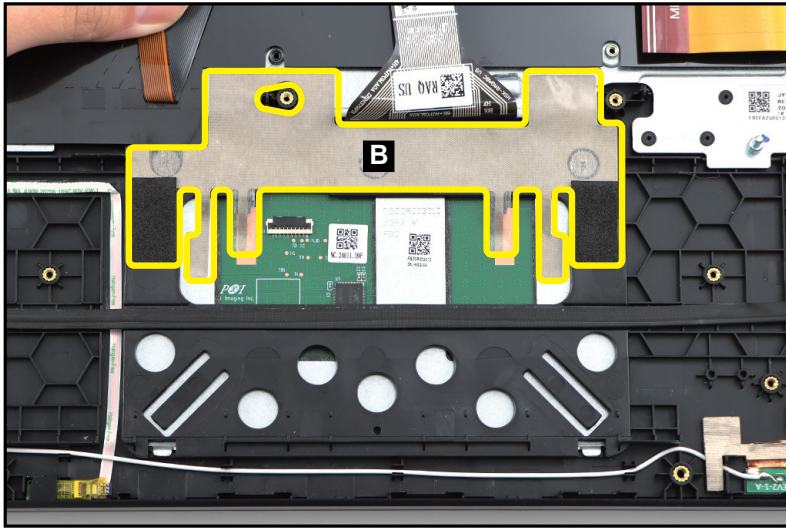

Figure 1-38. Touchpad Module Removal
2. Lift and hold the keyboard FPC and keyboard backlight FPC. Then detach the conductive tape (B) from the touchpad module and top assembly (Figure 1-38).